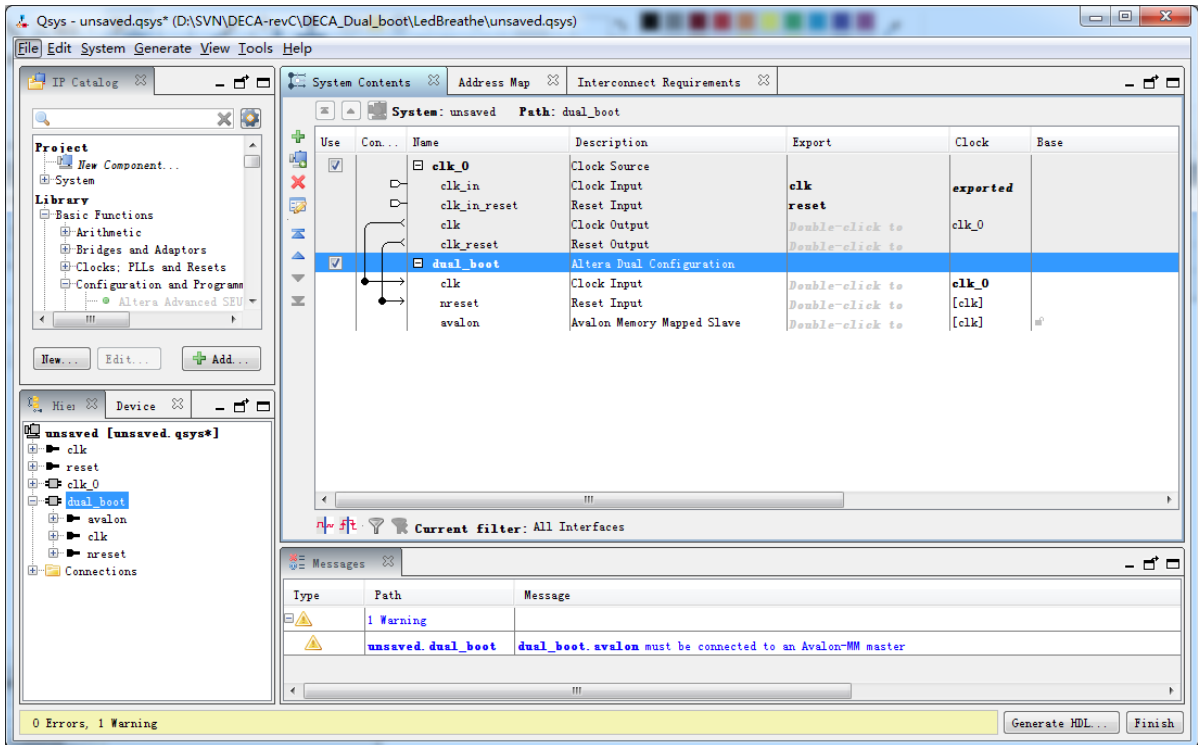

Figure 8-7 Rename and Connect Dual Boot IP
4. Choose **dual_boot_0** and rename it to **dual_boot**, connect the **clk** and **nreset** to **clk_0.clk** and **clk_0.clk_reset** as shown in Figure 8-7.